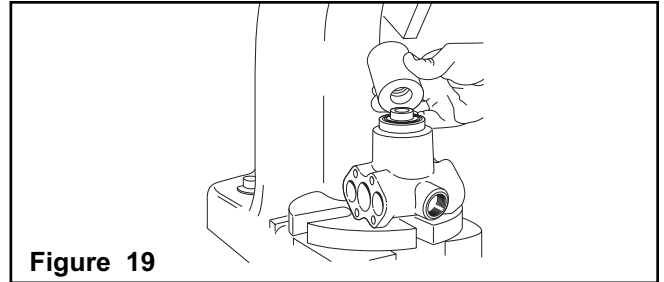

Figure 19
9. Place the smaller opening end of the Main Bearing Support Tool over the Crankshaft (See Figure 19).